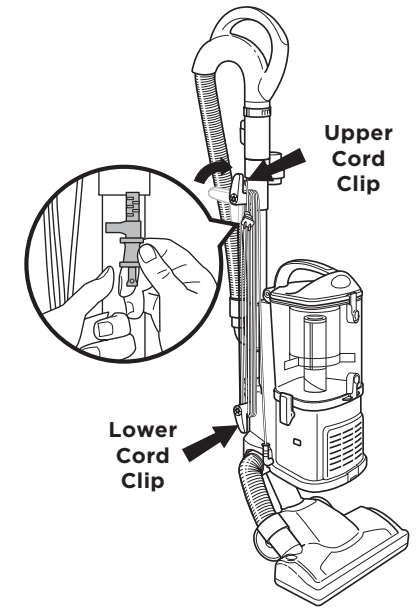

Fig. 17
- 2 Rotate the upper cord clip to its upright position and coil the power cord loosely around the two clips. Clip the plug onto the cord to secure. (Fig. 17)